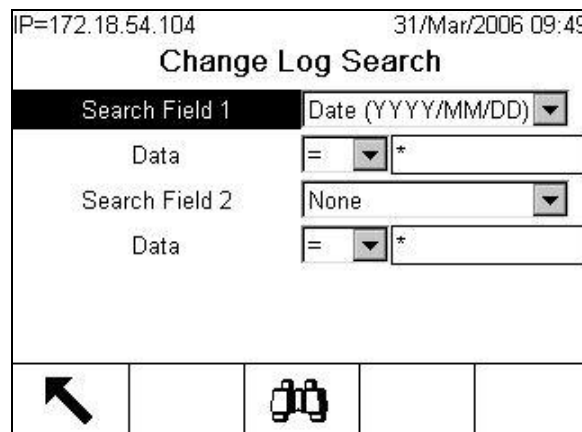

Figure C-30: Change Log Search Screen
2. Press the VIEW TABLE softkey . The Change Log Search screen displays (Figure C-30).